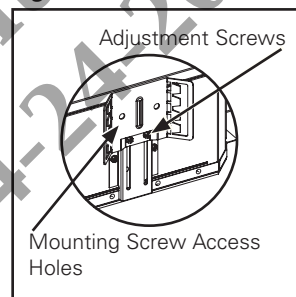
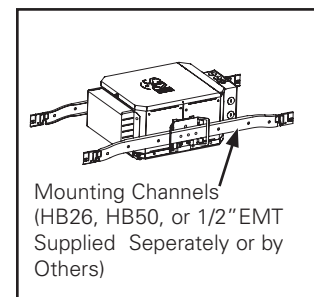

Figure 4.
Figure 5.
- The P3LED09 housing platform is equipped with universal hanger brackets (Figure 4.). The height of each hanger bracket can be adjusted by loosening the two adjustment screws, setting the bracket height and re-tightening the adjustment screws to secure the bracket in position.
- The housing platform should be supported by main runners or other structure that is capable of supporting a fixture weight of 10 pounds (Figure 5.). To accommodate tighter joist spacing, remove universal hanger brackets by adjusting bracket to the highest position and removing the mounting screws (Figure 4.). After removing hanger brackets, reinstall the mounting screws onto the housing to maintain airtight construction.